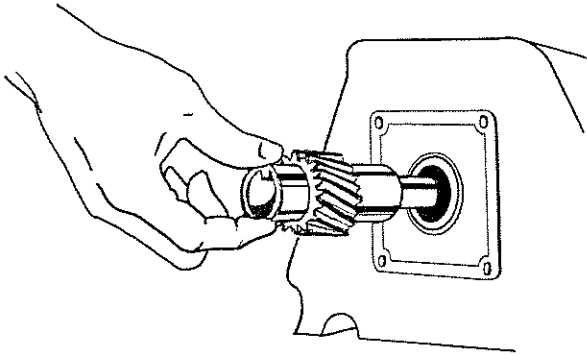

Figure 3.
2) Slide primary pinion up to the shoulder on the engine's crankshaft. (Figure 3).